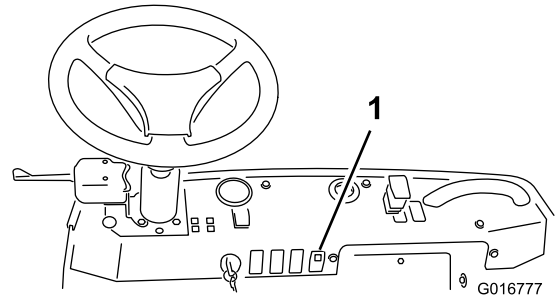

Figure 4
2. Insert the rocker switch (Figure 4).